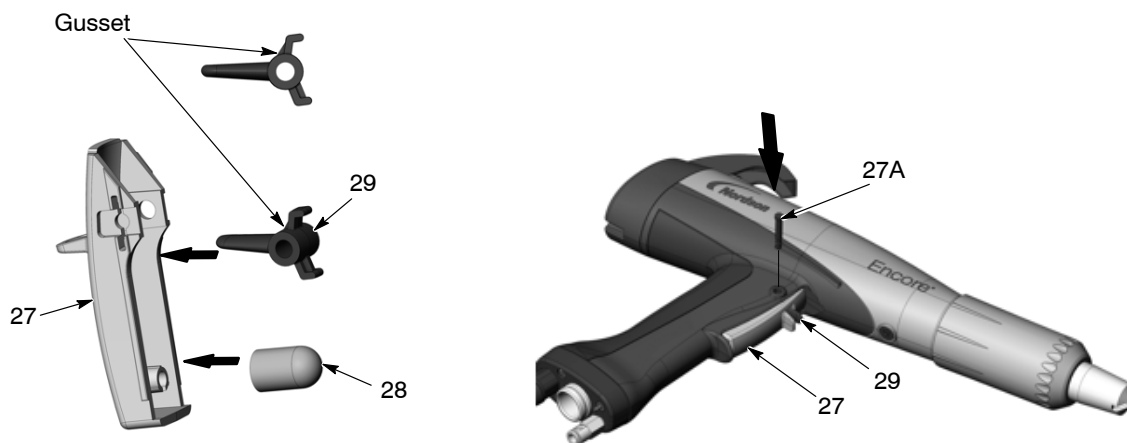

Figure 6-9 Reinstalling the Trigger and Axle
4. See Figure 6-9. Install the purge trigger (29) into the spray trigger (27) with the gusset oriented upward as shown. **Do not install the purge trigger upside down.**
5. Verify that the actuator (28) is installed over the post.